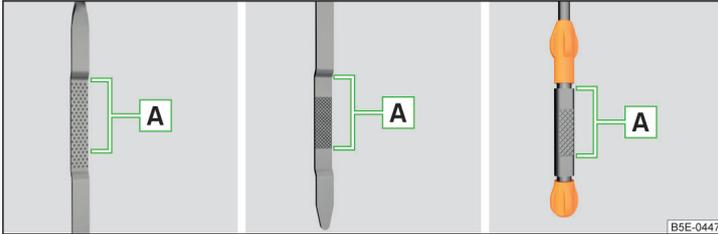

Fig. 161 Principle sketch: Dipstick
Dipstick » Fig. 161
- The oil level must never be above the **A** range » Fig. 161 - there is a risk of damaging the exhaust system!